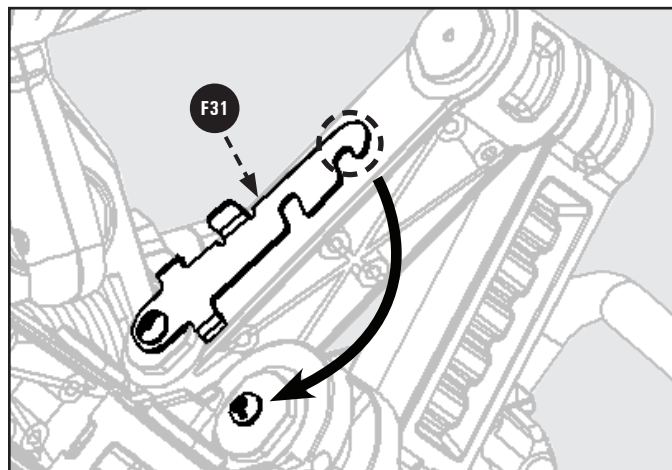

Figure 31
See Figure 31 and 32.
1. To use this saw as a traditional, non-sliding, miter saw: slide the saw head into the fully retracted position and engage the slide lock lever **F31**, baseboard notch. See Figure 31.